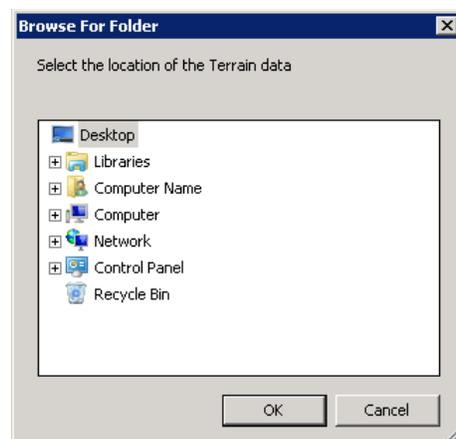

Figure 5-6 Browse for Folder Dialog Box
3. Navigate to a terrain file of the following formats: 3CD, DEM\* or Grid Float (Figure 5-6).
- b. Navigate to the directory where the weather files are stored (Figure 5-6). AEDT2a supports GEOS, NCAR, and RUC weather data.